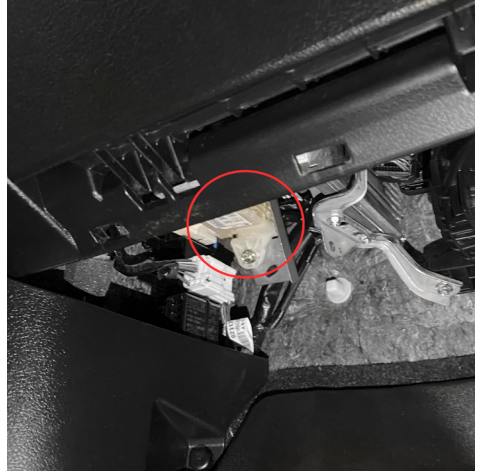

Fig. 17 Interior Fuse Box Location
2. Access this fuse box by removing the trim piece below the glove box. Depress the 4 clips on the front edge of this panel and slide the panel away from the fire wall, set the trim piece aside. The passenger fuse box is located behind this trim panel on the left most side (Fig. 17). Remove the cover of the fuse box, this will not be refitted so it should be stored in a safe location such as the glovebox.